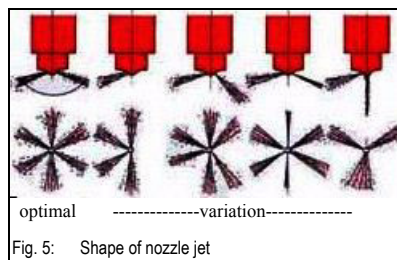

Fig. 5: Shape of nozzle jet
- ☞ The nozzle jet must create a shape on the paper as shown in fig.5/1